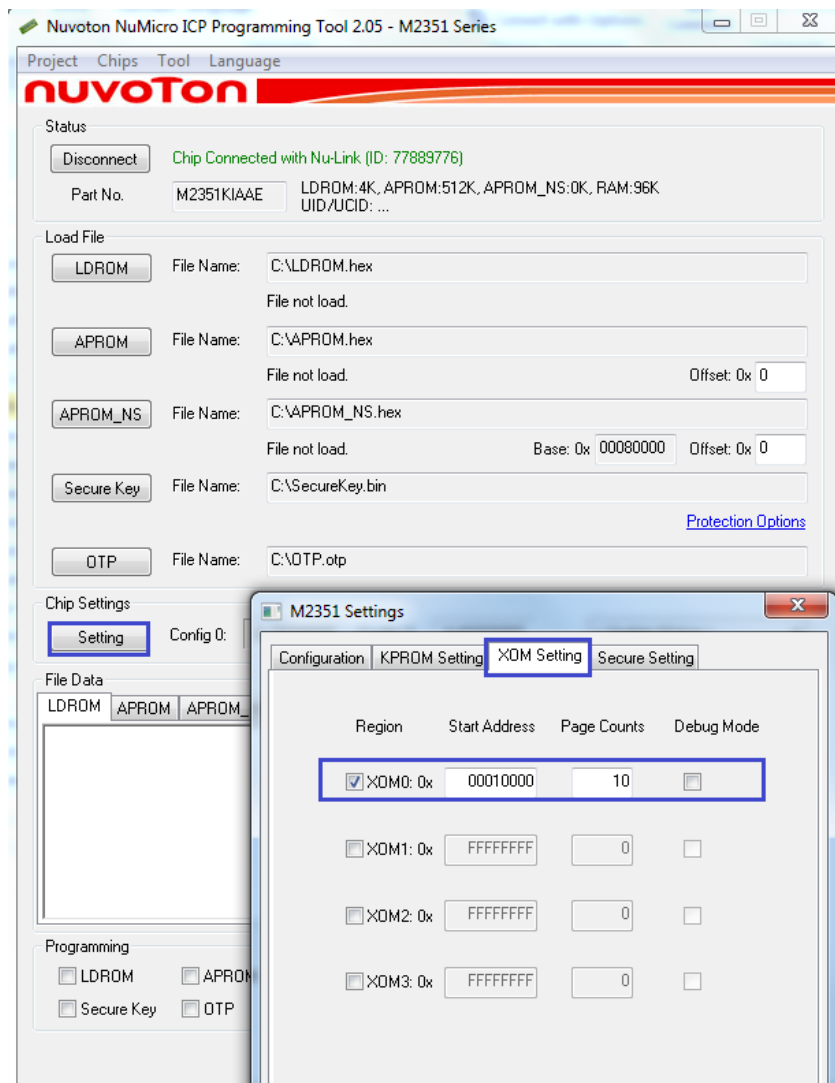

Figure 4-6 Open M2351 Settings and XOM Setting
2. Click “Setting” button to open the “M2351 Settings” page, as shown in Figure 4-6.